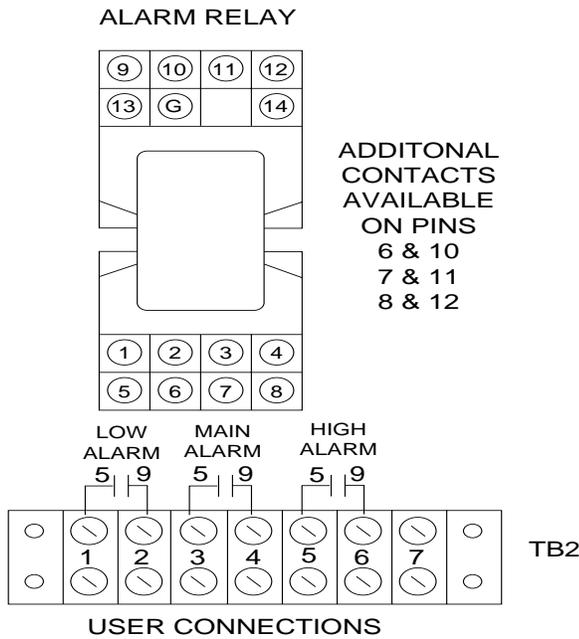

Fig. 3
Warning lights, horns or other devices are actuated using the Alarm relay contacts on TB2 as shown (Fig. 3). Use an auxiliary contactor for heavy loads such as exhaust fans. **Note: alarm contacts are rated (5) amps/240 VAC maximum.** (Refer to the system wiring diagram for a schematic of the alarm relays.)